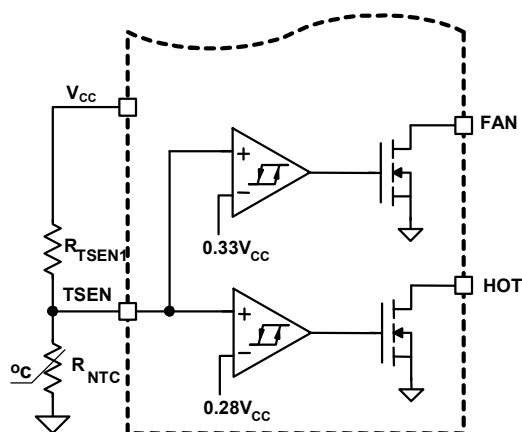
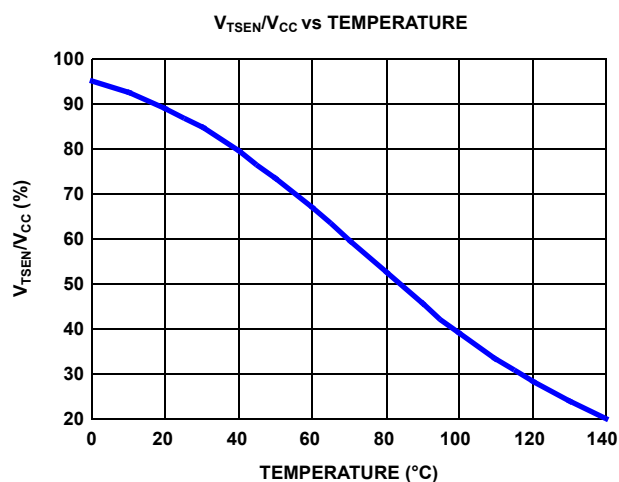

FIGURE 14. BLOCK DIAGRAM OF THERMAL MONITORING FUNCTION
FIGURE 15. THE RATIO OF TSEN VOLTAGE TO NTC TEMPERATURE WITH RECOMMENDED PARTS
The diagram of thermal monitoring function block is shown in Figure 14. One NTC resistor should be placed close to the power stage of the voltage regulator to sense the operational temperature, and one pull-up resistor is needed to form the voltage divider for TSEN pin. As the temperature of the power stage increases, the resistance of the NTC will reduce, resulting in the reduced voltage at TSEN pin. Figure 15 shows the TSEN voltage over the temperature for a typical design with a recommended 6.8k Ω NTC (P/N: NTHS0805N02N6801 from Vishay) and 1k Ω resistor R_{TSEN1} . We recommend using those resistors for the accurate temperature compensation.
Based on VCC voltage, EC7401QI converts the TSEN pin voltage to a 6-bit TSEN digital signal for temperature compensation. With the non-linear A/D converter of EC7401QI, TSEN digital signal is linearly proportional to the NTC temperature. For accurate temperature compensation, the ratio of the TSEN voltage to the NTC temperature of the practical design should be similar to that in Figure 15.
1. Properly choose the voltage divider for TSEN pin to match the TSEN voltage V_S temperature curve with the recommended curve in Figure 15.